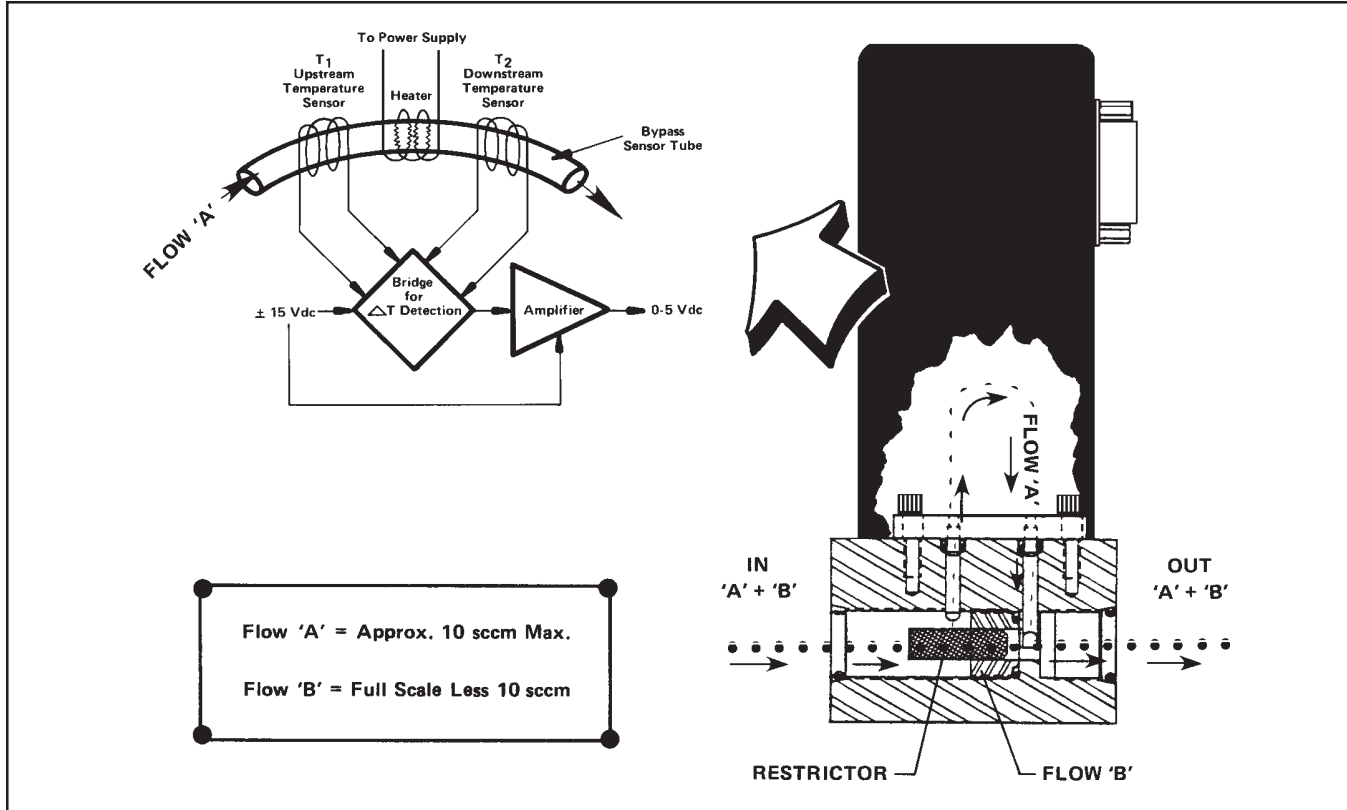

Figure 3-1 Flow Sensor Operational Diagram
A precision power supply provides a constant power heat input (P) at the heater which is located at the midpoint of the sensor tube. (Refer to Figure 3-1) At zero or no flow conditions, the heat reaching each temperature sensor (one upstream and one downstream of the heater) is equal. Therefore, the temperatures T1 and T2 are equal. When gas flows through the tube, the upstream sensor is cooled and the downstream sensor is heated, producing a temperature difference. The temperature difference T2-T1 is directly proportional to the gas mass flow.
The flow restrictor shown in Figure 3-1 performs a ranging function similar to a shunt resistor in an electrical ammeter. The restrictor provides a pressure drop that is linear with flow rate. The sensor tube has the same linear pressure drop/flow relationship. The ratio of the restrictor flow to the sensor tube flow remains constant over the range of the meter. Different restrictors have different pressure drops and produce meters with different full scale flow rates. The span adjustment in the electronics affects the fine adjustment of the meter's full scale flow.